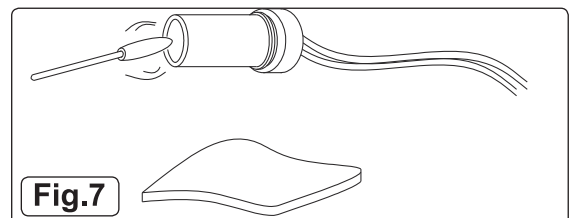

Fig.7
6.5.1 Use a cotton swab dipped in water or alcohol to clean the lens of the Photocell (Fig.7, Fig.8).